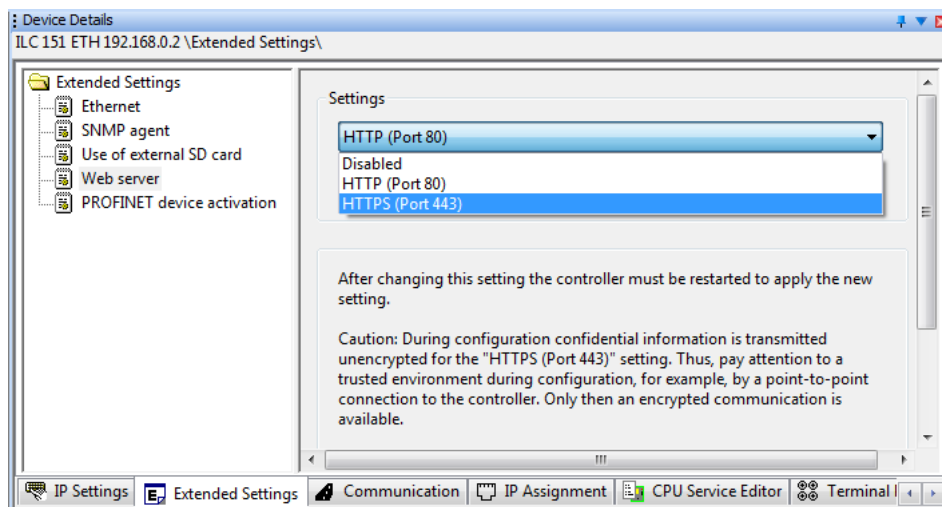

Figure 3-31 Setting HTTPS
- Click "Send" (hidden by the drop-down list in Figure 3-31) to transmit the setting to the Inline controller.